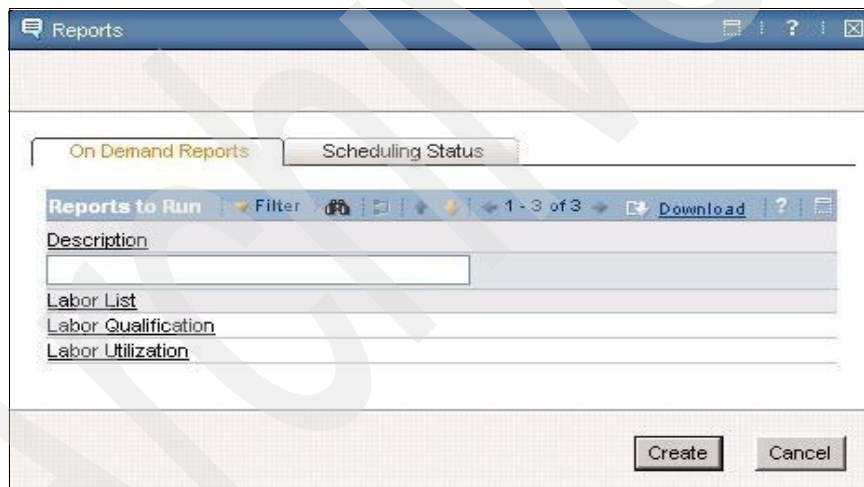

Figure 5-40 Labor List
- From the Reports dialog, select the **Labor List** report (see Figure 5-40).